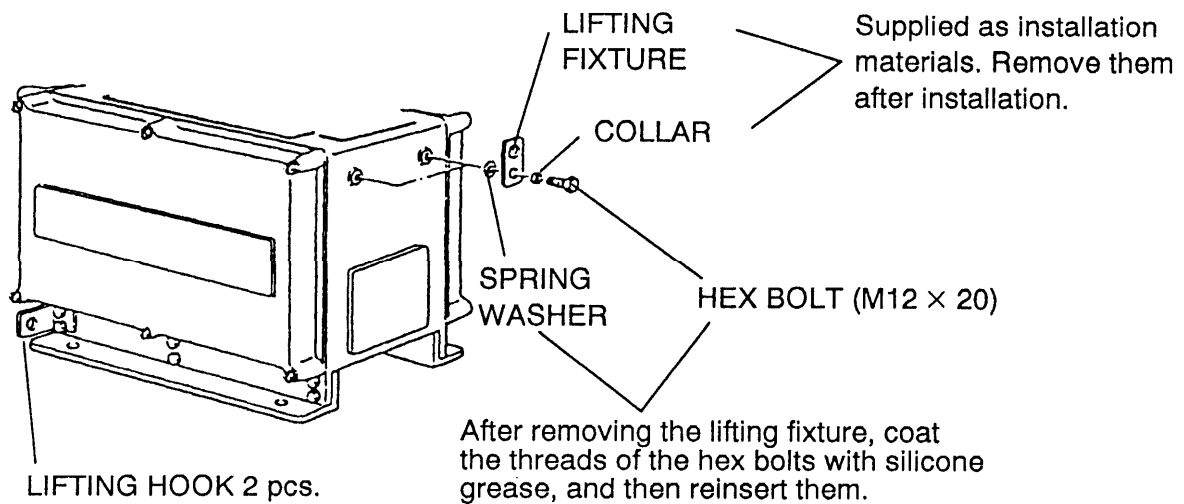

Fig. 1-2
- 2) Attach the lifting fixtures and collars as shown in fig. 1-2.